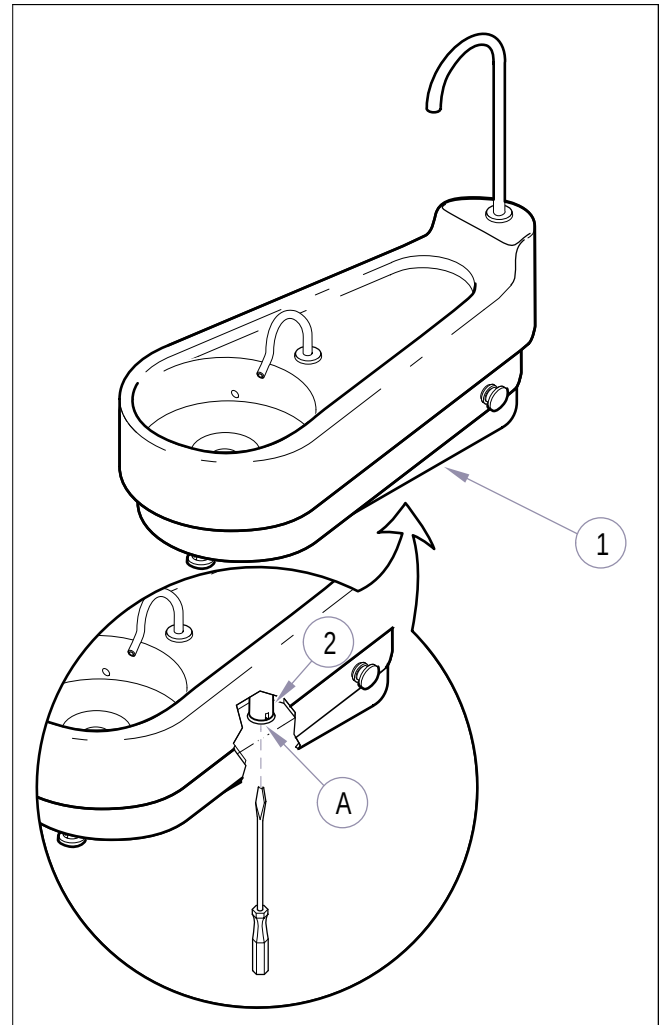

Figure 4-10. Cuspidor Bowl Flush Valve Adjustment
- (1) Insert a large flat-headed screwdriver thru hole (A, Figure 4-10) in lower housing (1).
- (2) To **increase** cuspidor flush time: